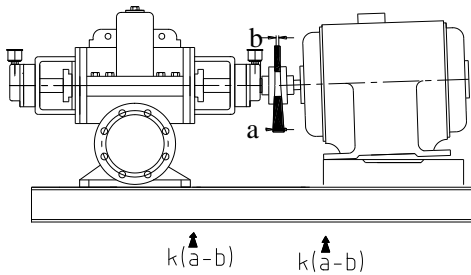
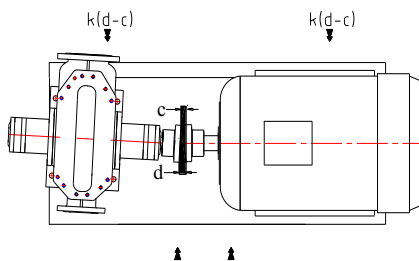

Figure 5: Angular misalignment in vertical plane and its correction
Figure 7. Angular misalignment in horizontal plane and its correction.
2. Angular Misalignment (Figure 5- Figure 7)